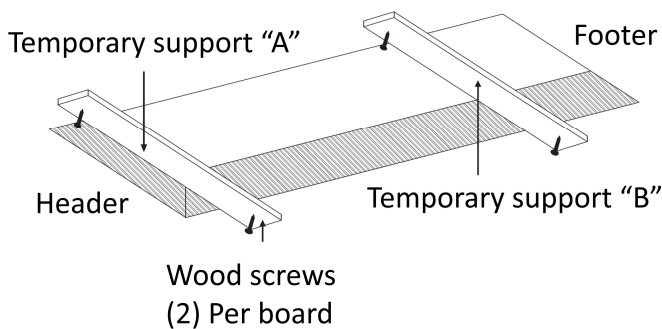
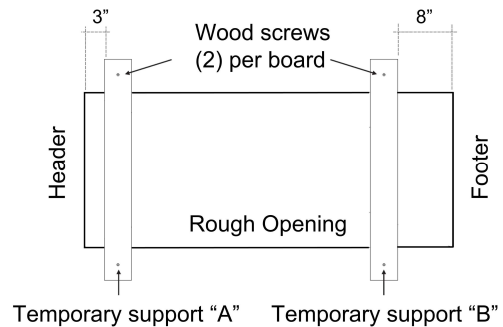

FIGURE 9 : BOARD SUPPORT INSTALLATION
FIGURE 10 : BOARD SUPPORT LOCATIONS
F. Attach temporary supports boards "A" and "B" (1" x 4" x 32") with 2-1/2" wood screws (not included). Support "A" will be 3" from the rough opening at the header/hinge end. Support "B" will be 8" from the rough opening at footer end. Be sure to follow these board placement dimensions so the temporary support boards do not hinder the remaining installation steps. See **Figure 9** and **Figure 10**.